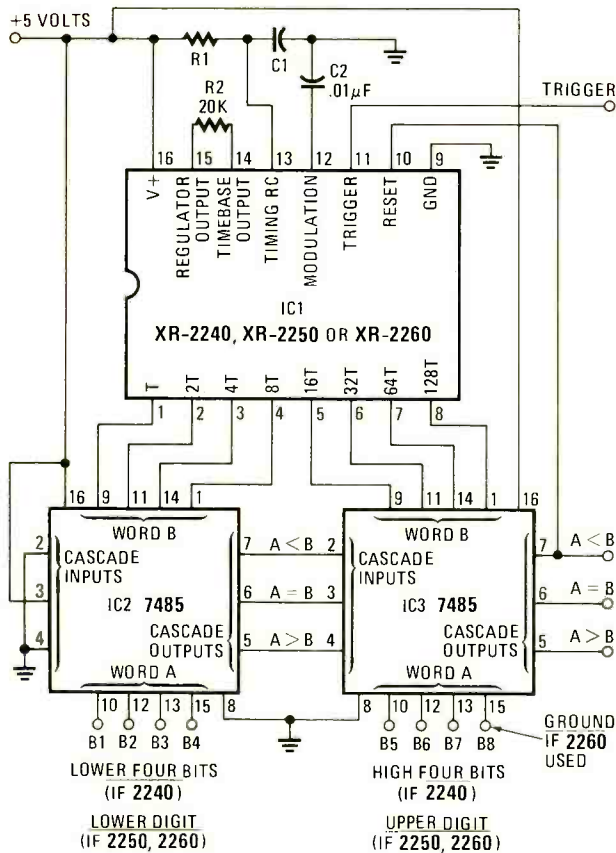
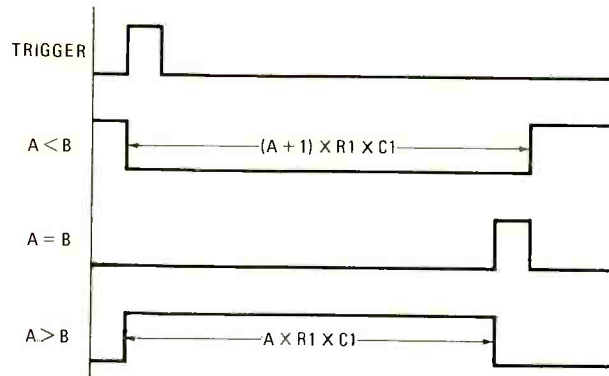

FIG. 7—PROGRAMMABLE DELAY TIMER can be obtained with the addition of two magnitude comparators.
FIG. 8—TIMING DIAGRAM for the programmable delay timer.
Figure 7 shows a timer that can be programmed using an external digital word. The basic circuit is the one shown in Fig. 3-a, except that the output terminals are connected to a pair of 7485 four-bit magnitude comparators.
The timing diagram for Fig. 7 is shown in Fig. 8. Since word A programs the timer, the output durations are given in terms of the value of word A and the RC timebase period.
Assume that the Fig. 7 circuit is programmed so that word A is 178_{10} (10110010_2), and that the R-C time constant is 5 seconds. What is the duration of the $A > B$ pulse? The duration is $A \times R1 \times C1$, or (178) (5 seconds), or 890 seconds (about 14.8 minutes).